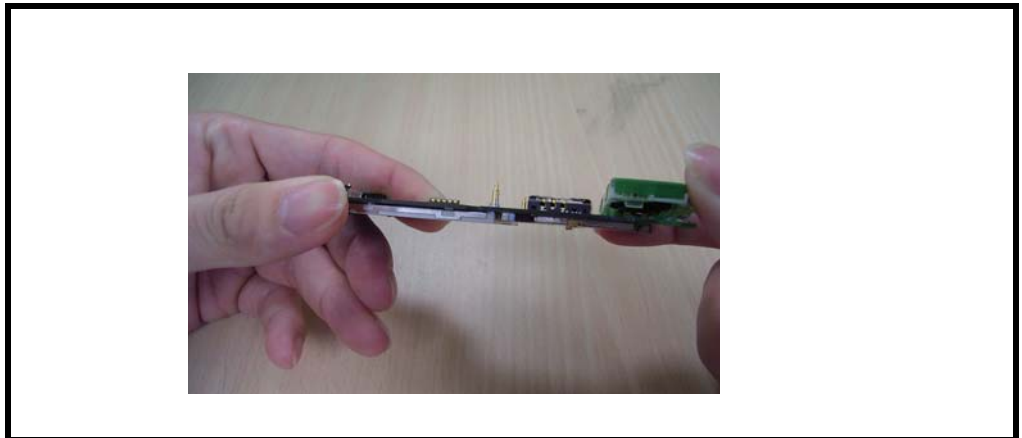

Figure 14. Removing Antenna
3. Remove receiver as shown in Figure 14.